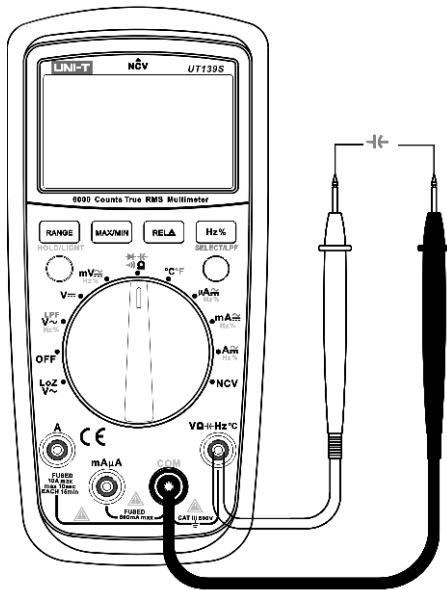

Figure 6
5. Capacitance measurement (see figure 6)